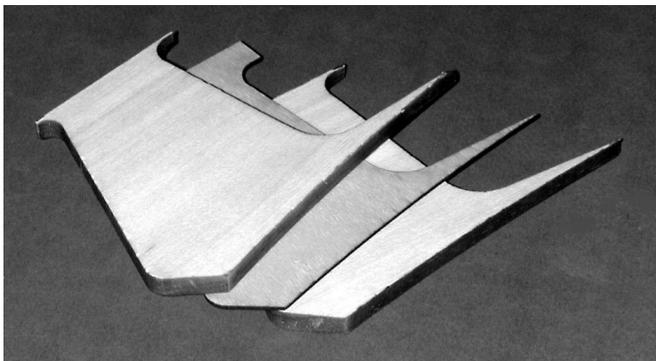

Figure 2
- a. Epoxy the 1/4" balsa fin outer layers to each side of 1/16" plywood core, carefully aligning the edges. See figure 2 for the fin layers.